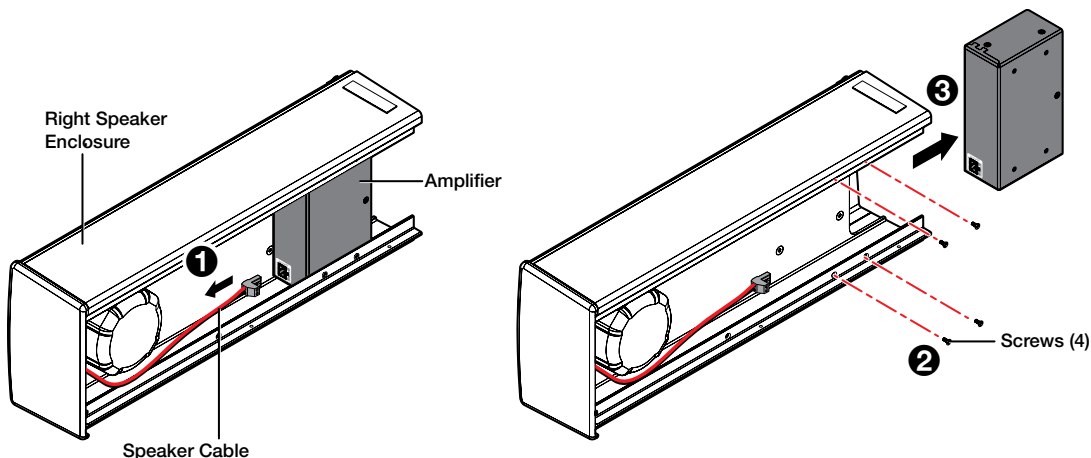

Figure 57. Disconnecting the Right Speaker Wire from the Amplifier
6. Disconnect the speaker wire from the amplifier side (figure 57, ①) that goes to the right speaker.
7. Remove the four screws that attach the amplifier to the right speaker enclosure (②).
8. Remove the amplifier from the right speaker enclosure (③).